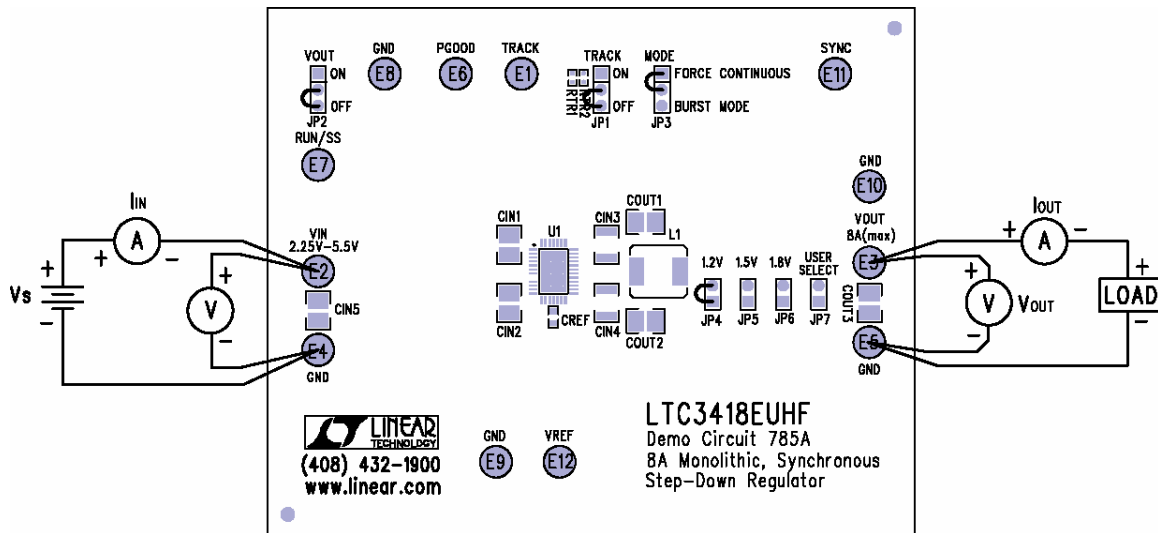

Figure 1. Proper Measurement Equipment Setup
The DC785 demonstration board is easy to set up to evaluate the performance of the LTC3418. For proper measurement equipment configuration, set up the circuit according to the diagram in **Figure 1**. Before proceeding to test, insert jumper JP2 shunt into the off (lower) position, connecting the RUN pin to ground (GND), which shuts down the circuit.
1. Connect the input power supply and the load to the board. Do not hot-plug V_{in} or increase V_{in} over the rated maximum supply voltage of 5.5V, or the part may be damaged. Refer to figure 1 for the proper measurement equipment setup.